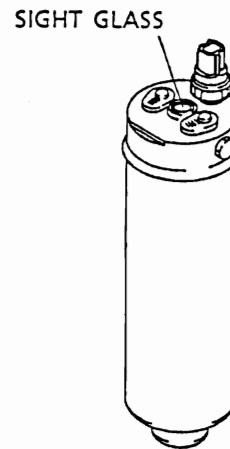

Fig. 29 Receiver dryer
- 5) Open the low pressure valve of the gauge manifold and the service can valve and fill in refrigerant till air bubbles of the sight glass of the receiver go away. (See Fig.29.)